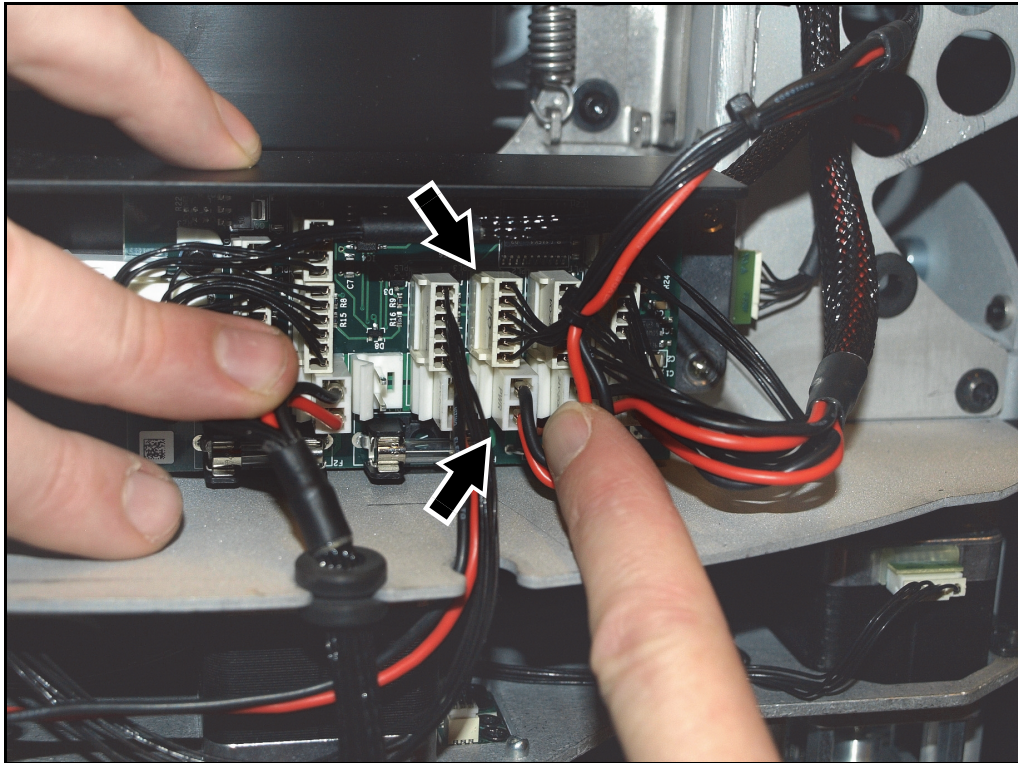

Figure 8
10. See Figure 8. Connect the other end of the wireset to the PCB shown in the head as follows: power to connector PL13 and data to connector PL3.